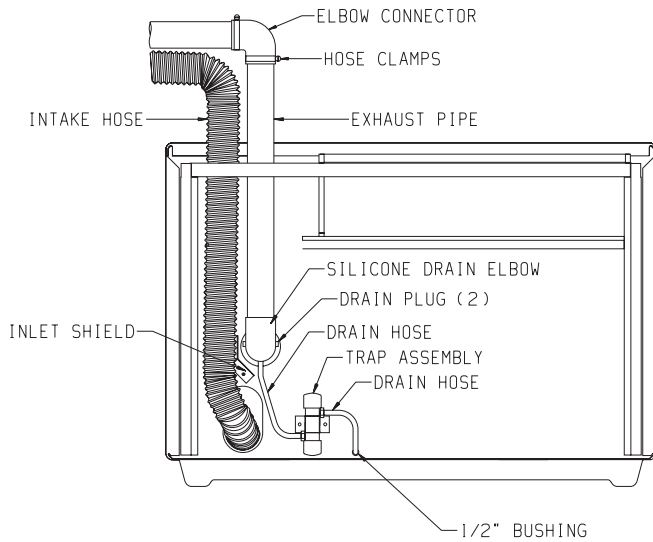

Figure 13
6. The shroud top has three knockouts for vertical vent runs. The center knockout is for the exhaust pipe. The knockouts to either side of the center knockout are for the inlet hose. If a horizontal vent is used after the vertical portion of the vent run, it is recommended the exhaust pipe be routed above the inlet hose. This can be accomplished by using the appropriate right or left vertical knockout in the shroud top. **See Figures 13 and 14.**